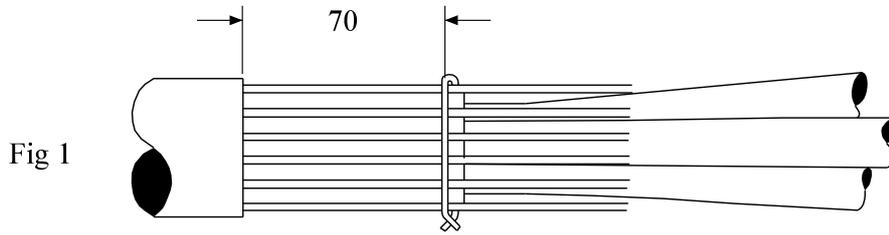

Fig 1
1. Ensure the lead sheath has been abraded and degreased with an approved degreaser – Fig1.
9. Start at the binder applied in 4 apply 2 layers of 50% overlap of Scotch 13 tape to the collective copper wire screens and apply the tape with a moderate tension, see – Fig 1.